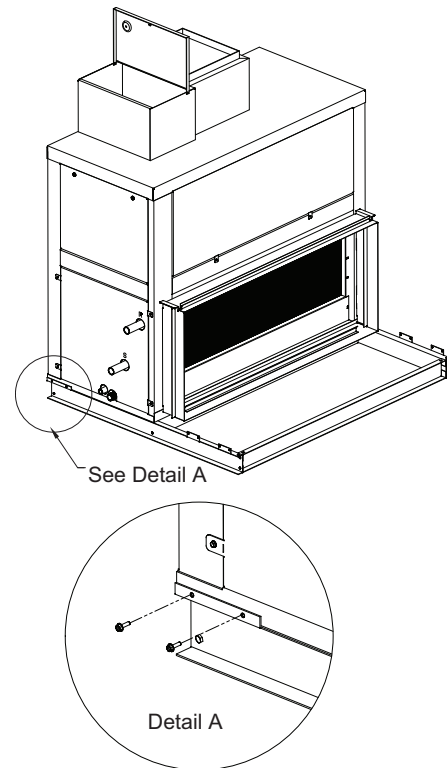

Fig. 9 — 42DV Vertical Units with Mixing Box Option
3. Place unit on the base rails. Then install mixing box and attach to base rail using the No. 8 x 1/2 in. fasteners (DHA) or No. 12 x 3/4 in. fasteners (DVA) at the locations shown in Fig. 9 and 10.